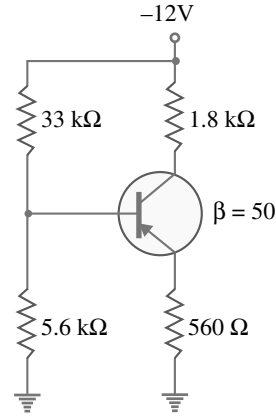

Fig. 7.67
16. (i) Determine the base voltage  $V_B$  in Fig. 7.67.
17. (i) Find the  $Q$ -point values for Fig. 7.67.
(ii) Find the minimum power rating of transistor in Fig. 7.67.